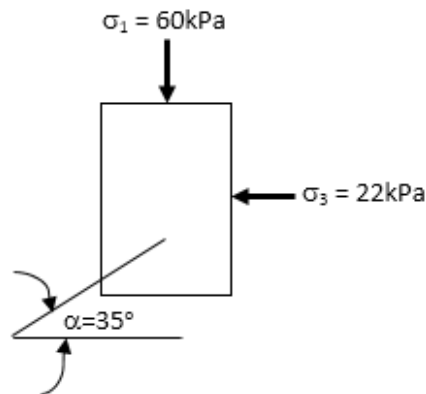

Figure 1 / Rajah 1
1. At a particular site, a natural layer of soil is subjected to additional stresses. The element for the stressed soil is given in **Figure 1**.